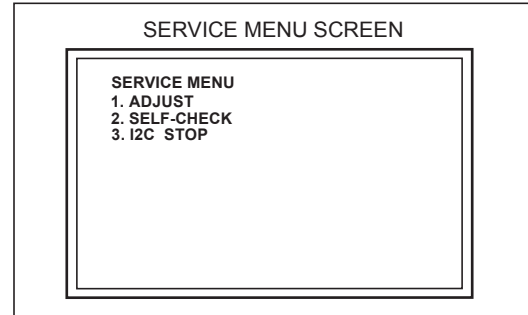

Fig.1
3) Verify what to set in the SERVICE MENU, and set whatever is necessary (Fig.1).